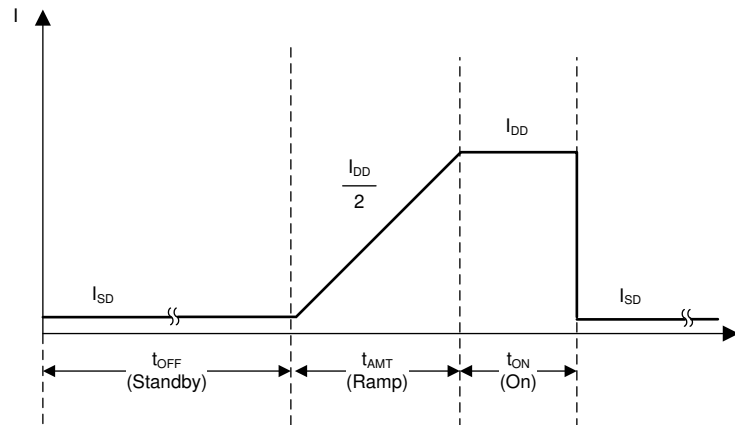

Figure 7-7. LDC0851 Supply Current vs. Time During Duty Cycle Operation
In order to achieve 10 year lifetime out of a single CR2032 battery, the enable pin (EN) of the LDC0851 can be duty cycled to achieve a low average supply current. Refer to Figure 7-7 to see the three different states of LDC0851 supply current during duty cycle operation. The sum of the Standby, Ramp, and On currents can be used to calculate the average supply current of the LDC0851, which needs to be below 2.5 μA to achieve a 10 year lifetime from a 220 mAh CR2032 battery.